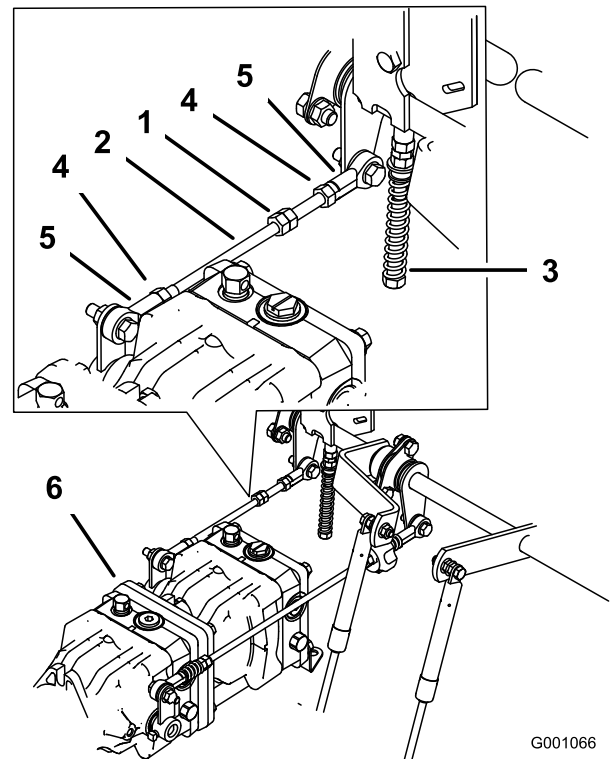

Figure 96
- Loosen the locknuts at the ball joints on the pump control rod (Figure 96).
- Adjust the pump rod length by rotating double nuts on rod, in the appropriate direction, until wheel is still or slightly creeps in reverse (Figure 96).
- Tighten the locknuts at the ball joints (Figure 96).